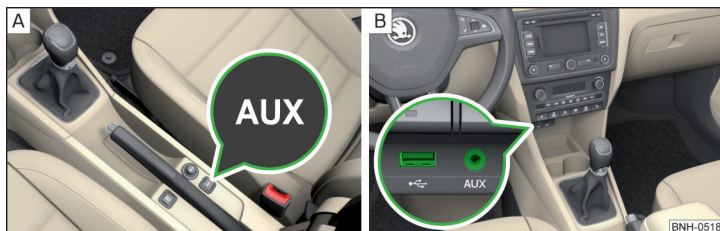

Fig. 90 AUX input / MDI input (AUX and USB)
- Between the front seats in the centre console » Fig. 90 - [A].
- Above the storage box of the front centre console » Fig. 90 - [B].
If vehicles are equipped with the USB input, this will be located above the storage compartment in the front centre console » Fig. 90 - [B].